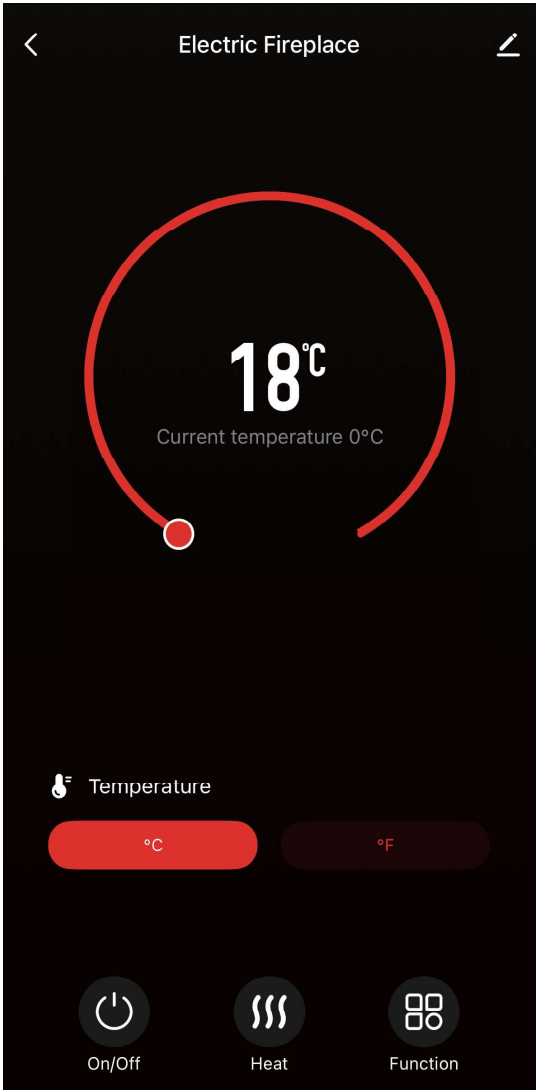

Figure 6
3. You will proceed to the app interface (Figures 6 and 7) and can operate the fireplace via WiFi.